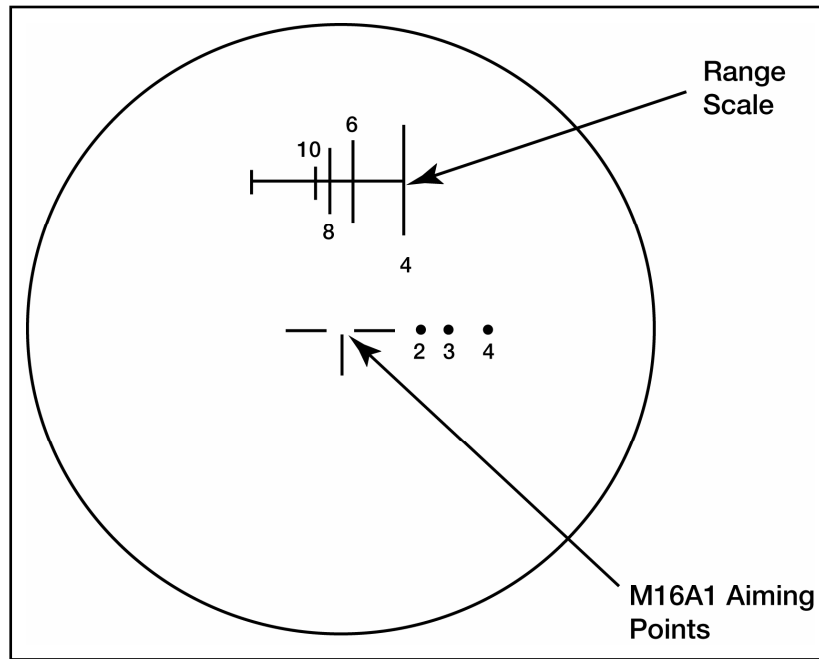

Figure 071-315-2308-1. Sight reticle
Note: Ensure the AN/PVS-4 has the proper sighting reticle (figure 071-315-2308-1).
2. Use the sight reticle. When used with the rifle, the AN/PVS-4 sight reticle consists of two parts (figure 071-315-2308-1).
(1) Place the target on the horizontal line and match it with one of the vertical lines (A, figure 071-315-2308-2).
(2) Read the number at the bottom or top of the vertical line. That is the distance in hundreds of meters to the target.
Note: If the figure is the same height as the vertical line, then that is the distance in hundreds of meters to the target. If the figure is same height as the vertical line above and below the horizontal line, then the distance is half the number at the top or bottom of that line (B, figure 071-315-2308-2).
(1) Place the left edge of the vehicle at the left side of the horizontal line (figure 071-315-2308-3).
(2) Read the range to the tank from the scale at the right edge of the tank. As shown in A, figure 071-315-2308-3, the range to the vehicle is 1,000 meters.
Note: When viewed from the front or rear, the vehicle width is about half the length. Read the placement of the vehicle width as about half the length. Read the placement of the vehicle width on the range scale as half the range scale value. As shown in B, figure 071-315-2308-3, the range to the vehicle is 400 meters.
a. The rifle aiming point for ranges out to 250 meters is the center of the three straight lines (zero aiming point, figure 071-315-2308-4). The top of the vertical line is the aiming point for 400 meters, and the bottom of the line is the aiming point for 600 meters.